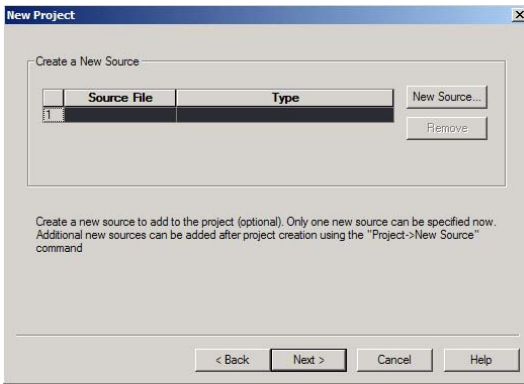
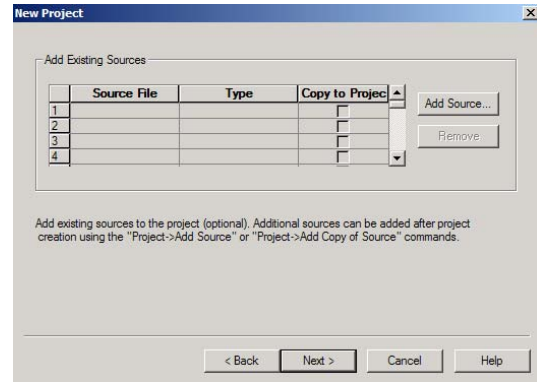

Figure 5. Creating new sources
Figure 6. Adding existing sources.
5. Add VHDL code to the project; Click **Next** on the following window (figure 5). A new window as shown in figure 6 will open. Click on the **Add Source** button and browse to the files `sequence.vhd` (VHDL Design file) and `sequence_tb.vhd` (VHDL Test Bench File). If for either reason you missed the windows we just described, you can still add the source files as you did in previous labs: Go to **Project** → **Add source**, select the `sequence.vhd` (vhdl module) and `sequence_tb.vhd` (test bench associated to `sequence.vhd`).